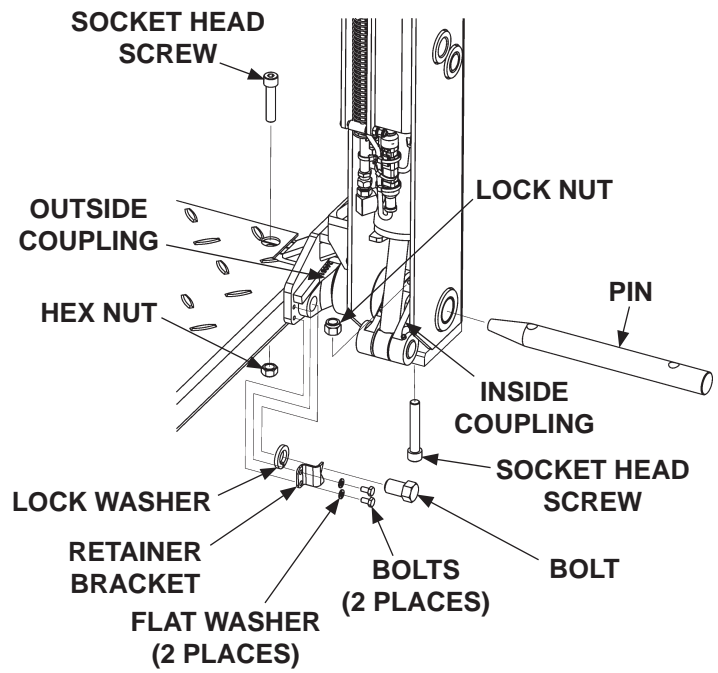

FIG. 3-2
4. Unbolt pin from platform connector bar and inner coupling at the RH runner (**FIG. 3-2**). Then, remove pin.
5. Unbolt outside coupling from platform connector bar on RH side of platform (**FIG. 3-2**). Discard bolt.